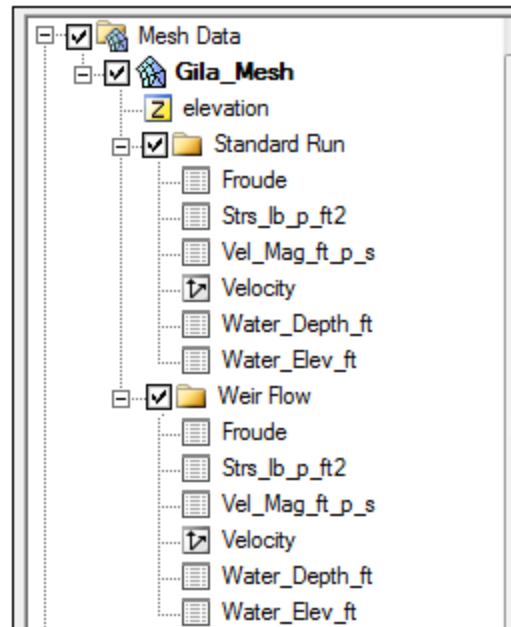

Figure 9 Mesh dataset organization
4. Drag the selected datasets below the new “Weir Flow” folder (see Figure 9).